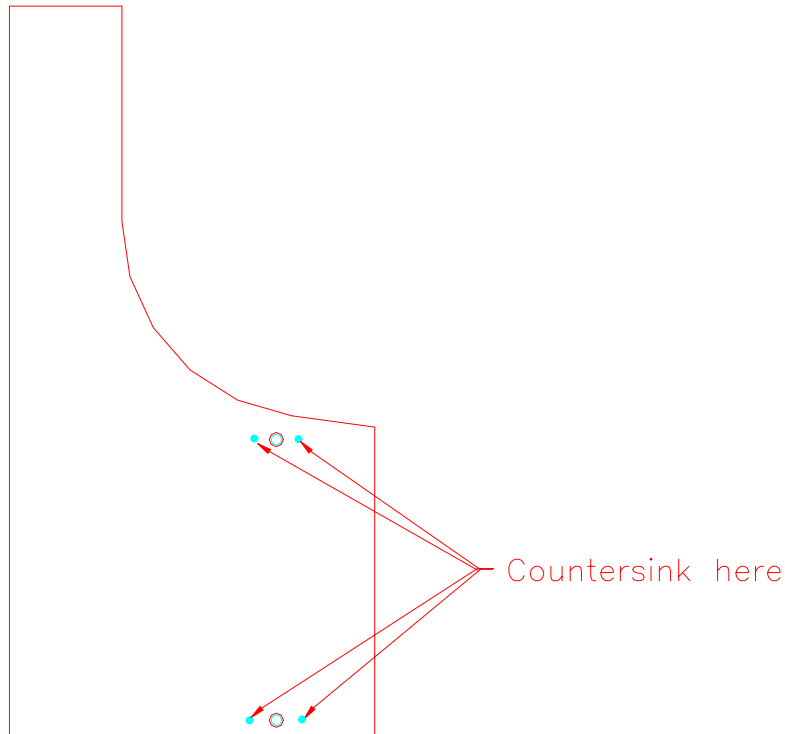

Figure 15.7.7
- 7) Countersink the four holes on the doubler to allow 1/8" CS rivets (RV-4412) to sit flush. Figure 15.7.7.